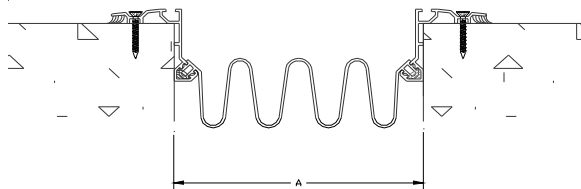

Figure 7
**STEP 12.** Select the back seal. Insert the back seal arrows into their corresponding base member channel so that the back seal properly spans the joint, see Figure 7.